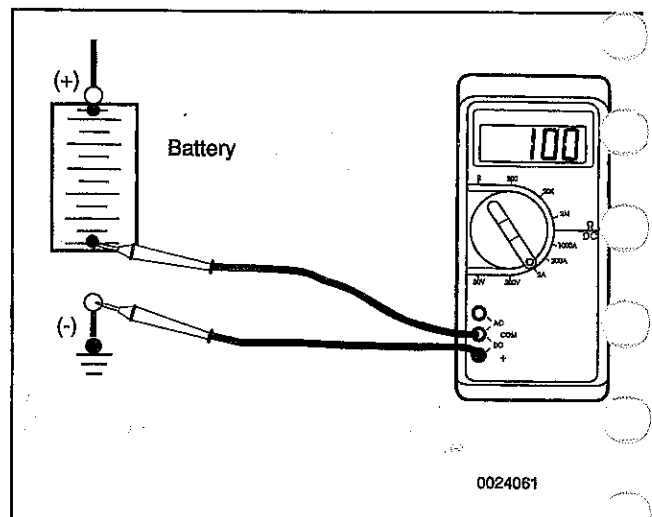

Fig. 2. Electrical system static current draw being measured.
3. Connect a digital ammeter between the battery positive post and the negative battery cable and measure the current draw. See Fig. 2.